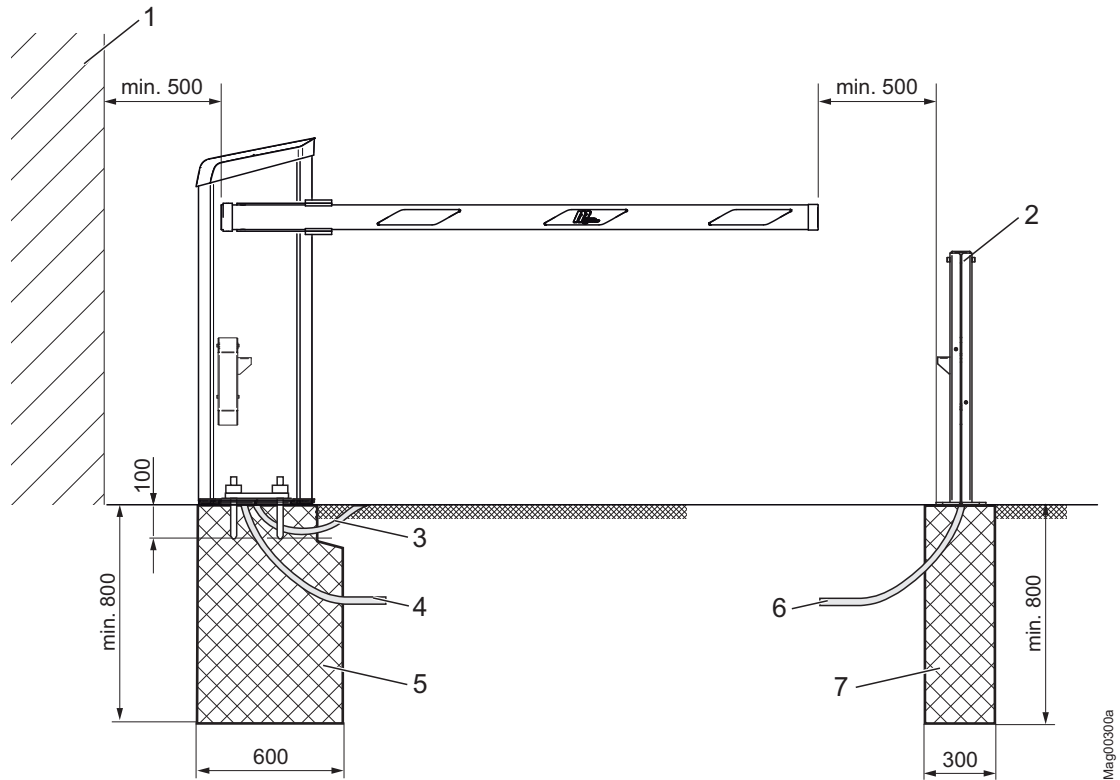
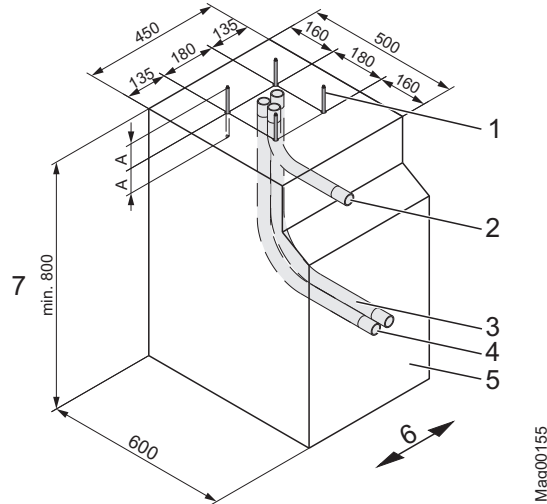
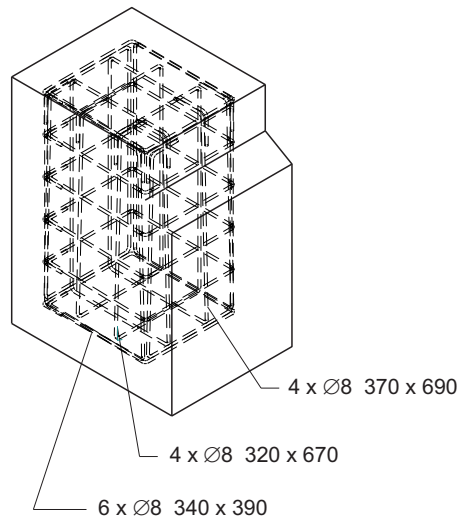
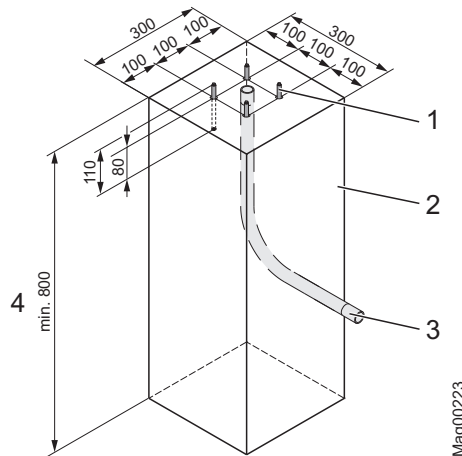

Fig. 10: Assembly boom system (dimensions in mm)
Fig. 11: Foundation plan (dimensions in mm)
Fig. 12: Reinforcement grid (dimensions in mm)
Fig. 14: Foundation plan for light barrier post (dimensions in mm)
- Assemble and install barrier system according to Fig. 10.
- Keep a safety distance of at least 500 mm between the tip of the barrier boom and other objects, such as walls, masonry or houses. → See page 41, Fig. 10.
→ See page 41, Fig. 10 and page 43, Fig. 12.
→ See page 43, Fig. 11.
1. Dig foundation hole pursuant to Fig. 10 and Fig. 11.
2. Place reinforcement grid pursuant to Fig. 12 in the foundation hole.
3. Place empty conduits pursuant to Fig. 11 in the foundation hole.
5. Fill concrete foundation pursuant to Fig. 11.
→ See page 41, Fig. 10.
1. Dig foundation hole pursuant to Fig. 10 and Fig. 14.
2. Place empty conduit pursuant to Fig. 14 in the foundation hole.
4. Fill concrete foundation pursuant to Fig. 14.
1. Cut a 50 mm deep groove into the surface or asphalt using a cutting disc. The groove must be equally deep at every point. According to Fig. 14 the corners of the groove must be cut in a 45° angle.